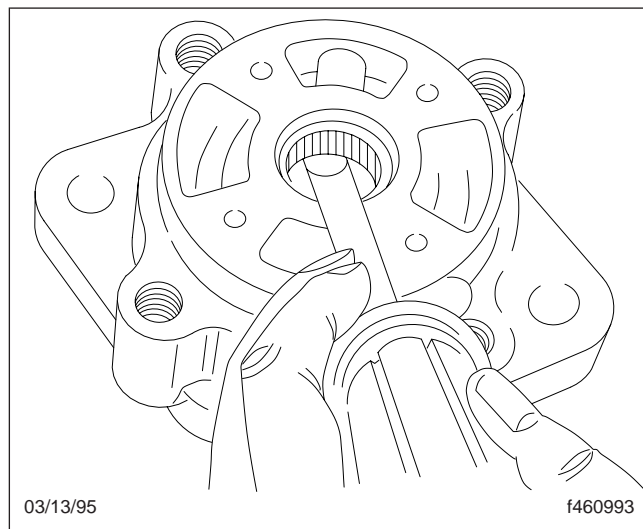

Fig. 17, Removing the Shaft Seal
16. Using care not to damage the bore, remove the shaft seal. See Fig. 17.